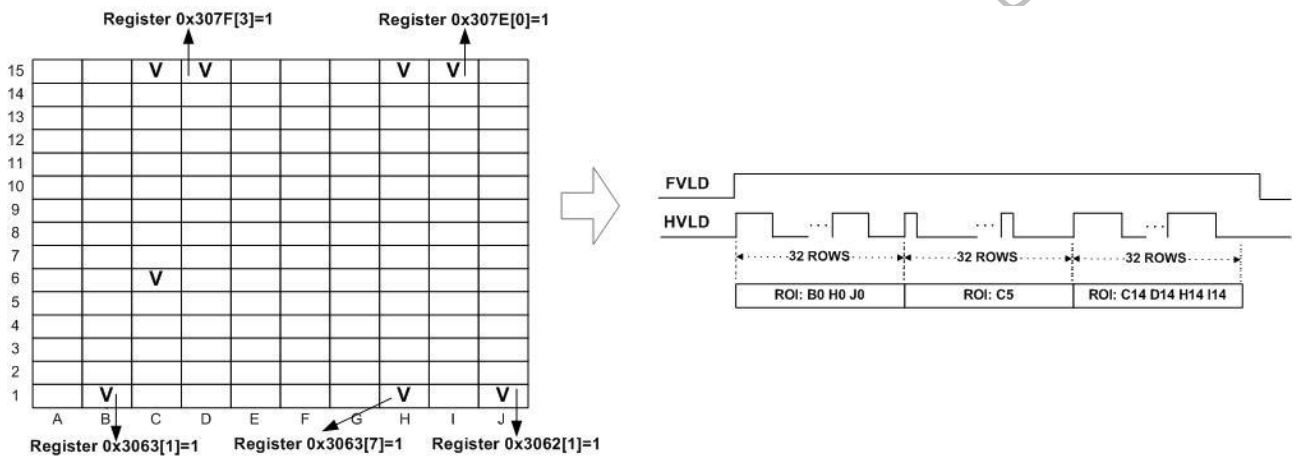

Figure 3.5: VGA ROI window readout with parallel interface
The HM0360 supports Region of Interest (ROI) window readout mode. The array is partitioned into 10(H) x 15(V) independently addressable ROI blocks. As shown in the ROI example below, the ROI selection is independent, and the frame timing will need to be programmed and adjusted based on the selected active region as shown the Figure 3.5. The resolution of each ROI block is scaled based on the binning / subsampling mode as described in Table 3.1.